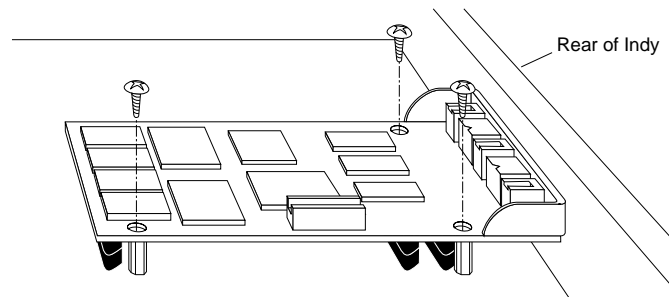
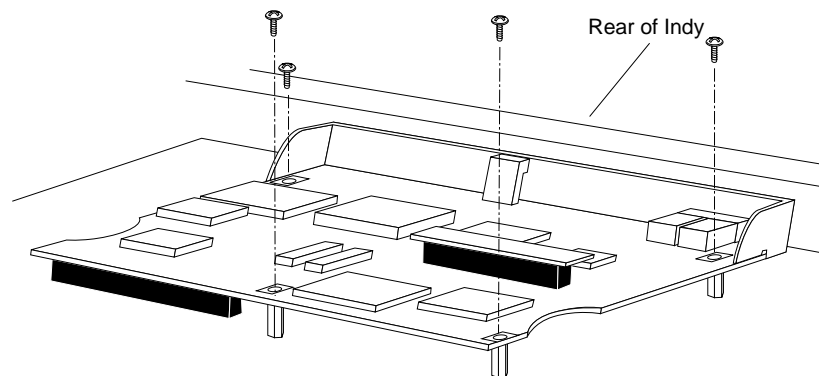

Figure 4-5 Installing a Single-Width GIO Option Board
Figure 4-6 Installing a Double-Width GIO Option Board
8. Connect the GIO option board to the graphics board. Figure 4-5 shows a single-width board. Figure 4-6 shows a double-width board.
- Using a phillips screwdriver, insert and tighten the screws (provided with the board) in the locations shown in Figure 4-5 (single-width board) and Figure 4-6 (double-width board). As you tighten the screws, alternate among them so that the board is connected evenly.